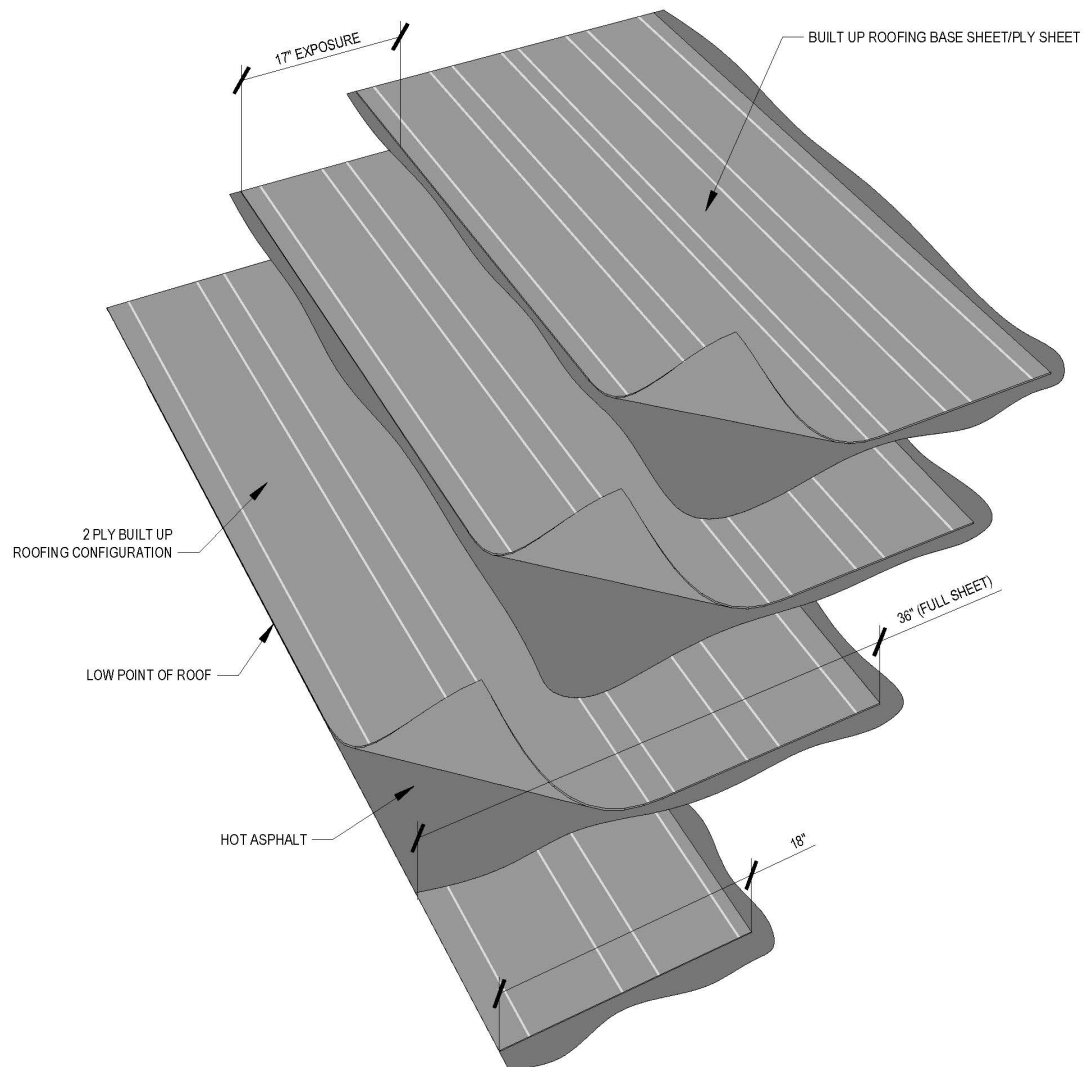

Figure 2.2a Two (2) Ply Built Up Vapor Retarder Configuration
- TWO (2) PLY BUILT-UP VAPOR RETARDER APPLICATION (Refer to Figure 2.2a):